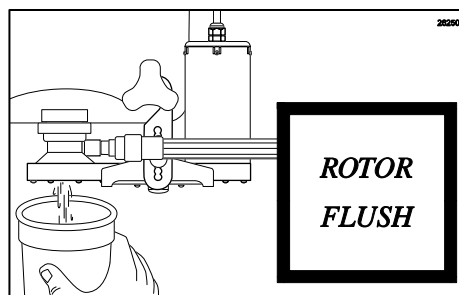

Figure 52
18. When no additional flavors need to be installed, press the ROTOR FLUSH key to clean the Injector Head. (See Figure 52.)